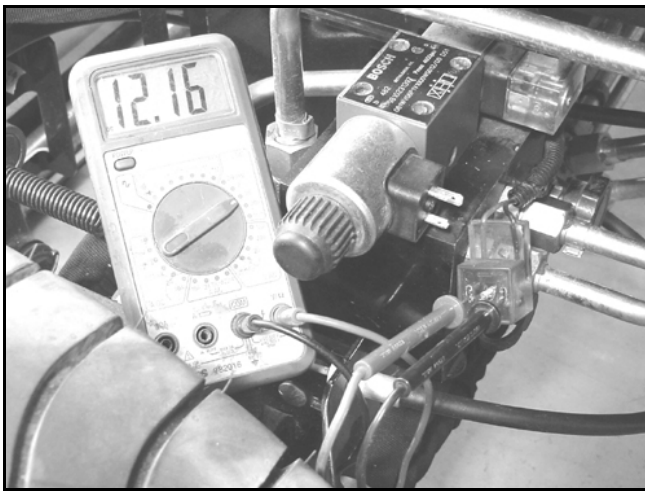

Figure 10I-6. Solenoid Power Test
5. Connect the test leads, red test lead to red wiring harness connector wire and black test lead to the black wire (Figure 10I-6). Activate the reel switch in the appropriate position.